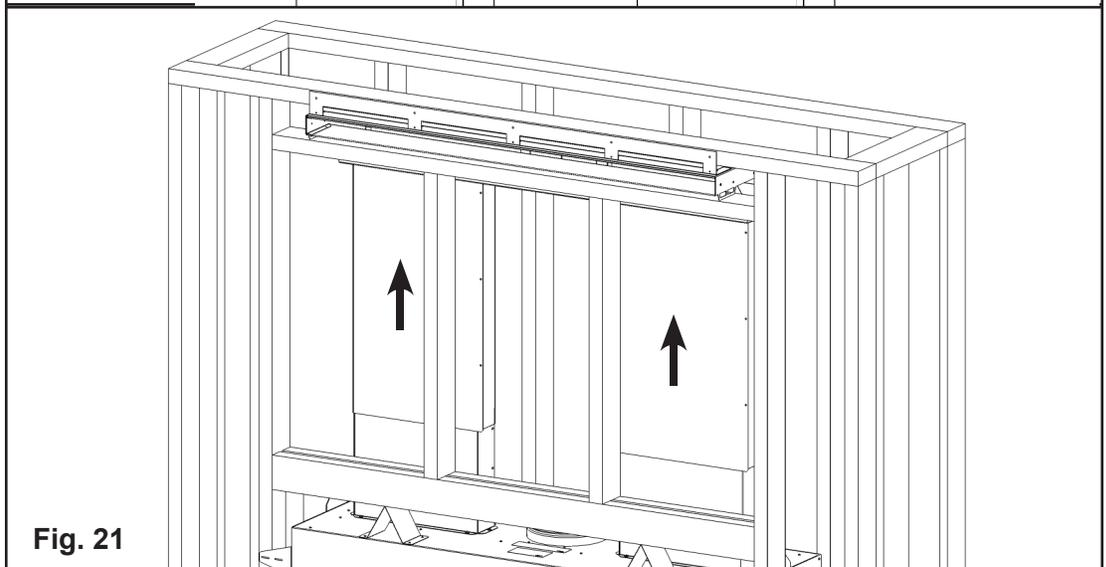

Fig. 21
7. Slide plenum ducts over appliance ducts, slide up to plenum assembly, screw to plenum assembly using screws supplied with the appliance (12 screws). (**Fig. 21**)